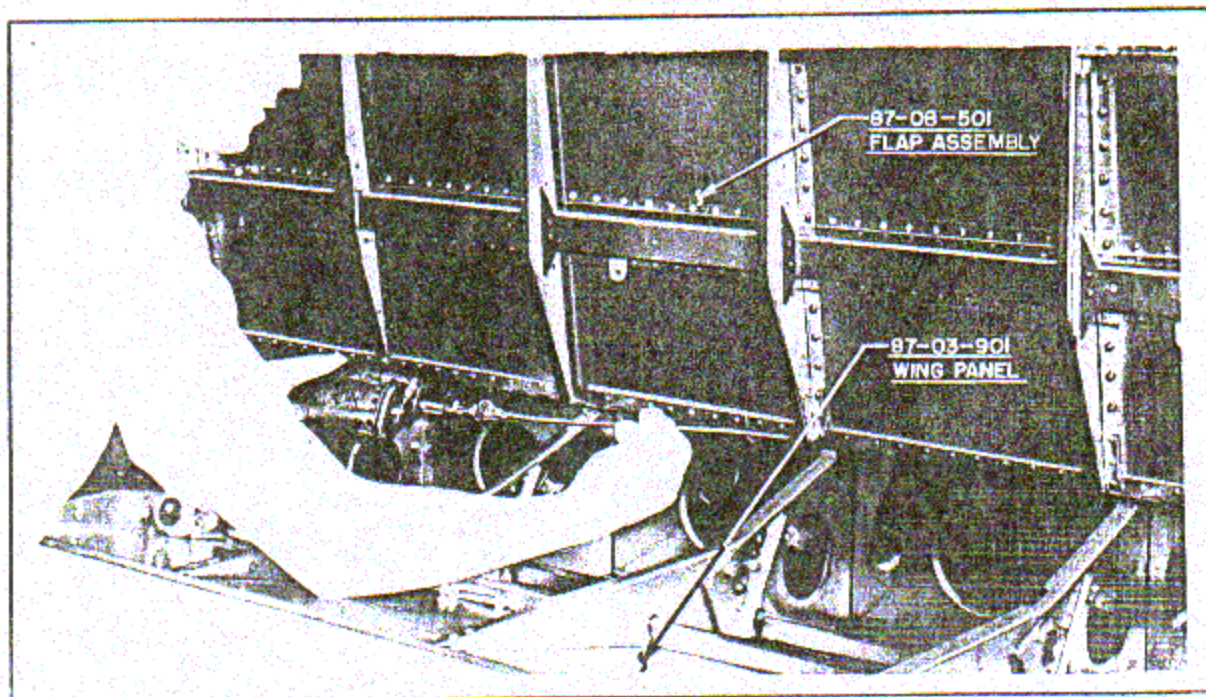

Fig. 26 - Wing flap hinge pin installation.
(6) **To Install the Wing Flaps:** Interlock the wing flap hinge and hold the flap in position while inserting the hinge pins. The loop end of the hinge pin may be clamped in the chuck of a low R.P.M. portable electric drill; lubricate the hinge pin with engine oil, grade 77, and use the rotating motion of the drill to aid in feeding the hinge pin through the hinge loops. See Figure 26.
(7) To Adjust the Wing Flap Position Indicator Mechanism: Follow the method outlined for adjusting the landing gear position indicating mechanism in paragraph 2, Column 37, Section III. The transmitter is located at the inboard end near the forward edge of the left wing flap, and is accessible from the rear of the wing when the wing flap is lowered.